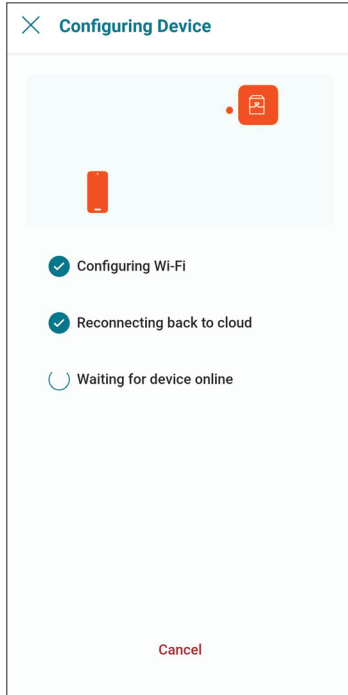

Figure 106. Configuring Device
9. Raymote app will provide the Wi-Fi credentials to your unit. This process may take a few seconds. See Figure 106.